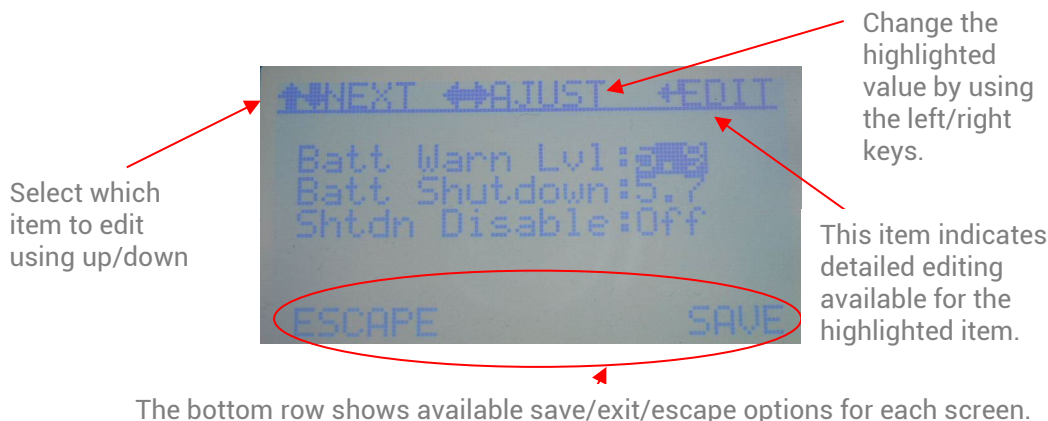

Figure 5.3
- D. Normal data entry – Most data entry can be accomplished by simple use of the LEFT/RIGHT keys to select/change values as shown in figure 5.3
Some data items require detailed editing as shown in figure 5.3. When the 'EDIT' item appears on the top row for a highlighted value the operator can either use the LEFT/RIGHT to change the value or use the ENTER key to enter the value directly – see Detailed data entry below.